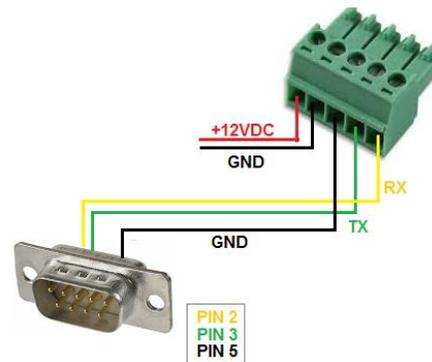

Figure 1: Example 3000-IO Power and Serial Connector
1. Verify that power and ground are supplied to the correct pins. See Figure 1 example.